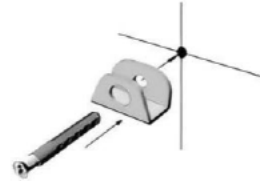

Fig. 6
3. Insert the two dowels (D) in the two holes and secure the two hooks (C) with the two screws (D) (Figure 6 & 7).